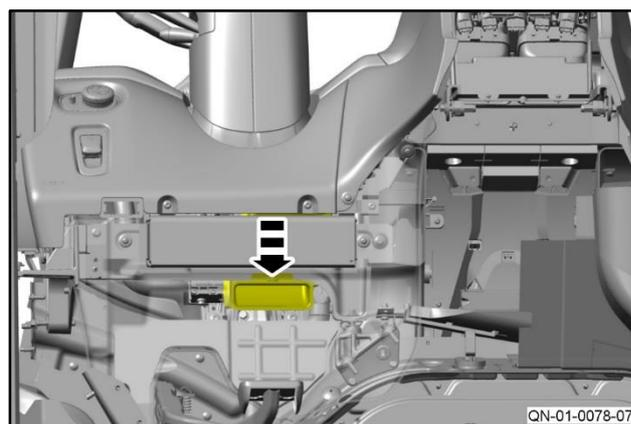

Figure 7
5. Move the vent duct to its original position (refer to Figure 7).